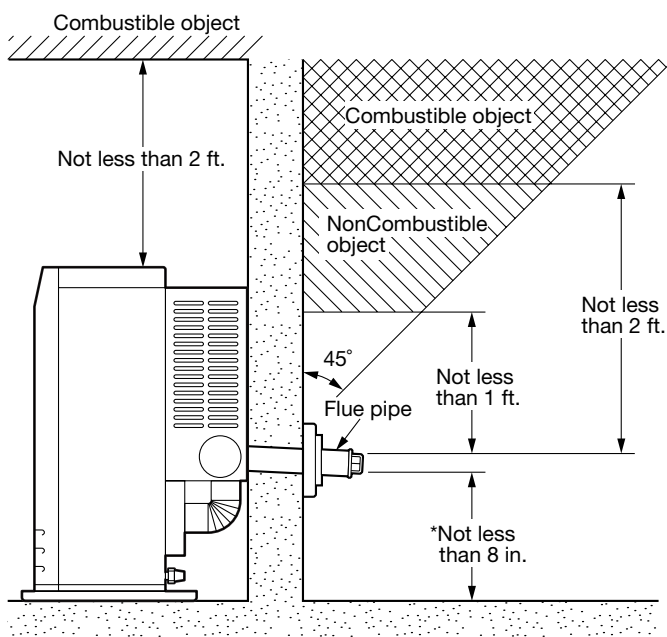

Fig. 2
2. Make sure that the outside area to where the flue pipe will reach is clear of any objects. (See Fig. 2 & 3)
CAUTION! The standard flue pipe installation, as shown in Fig. 2, is for wall thickness from 4 in. to 9 in. ONLY.